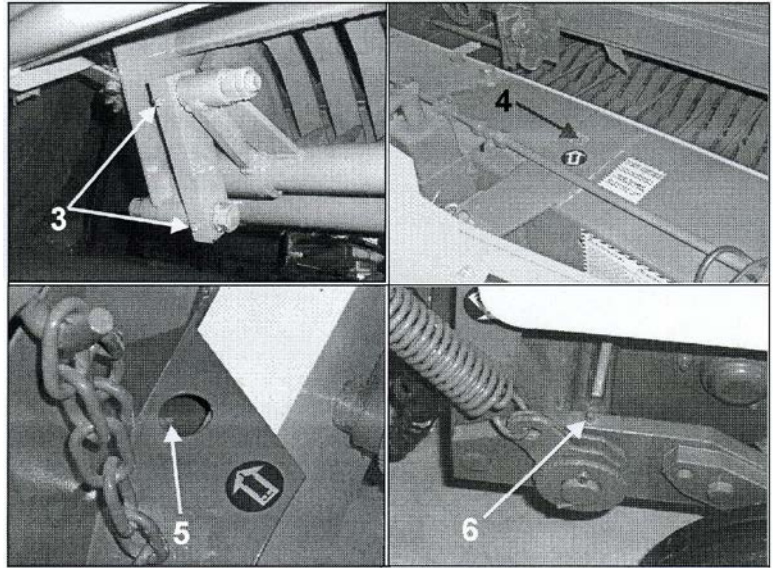

Fig. 13
3. greasing point 3 fig.13 for packer device connecting rod; to be greased once a day. Of course the above isn't valid if you find two sealed bearings in position 3 / fig.13.
4. greasing point 4 fig.13 for chain front joint block to be greased every 10 working hours, if possible, when the rear door is open;
5. greasing point 5 fig.13 for pick-up cam to be greased every 40 working hours;
6. greasing point 6 fig.13 for pick-up wheel lever right and left. To be greased every 40 working hours.